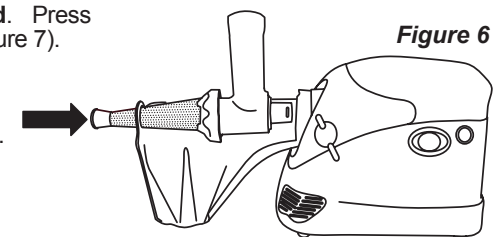

Figure 6
11. Slide the **Screen/Head Assembly** horizontally into the **Head** onto the **Motor** (figure 6).